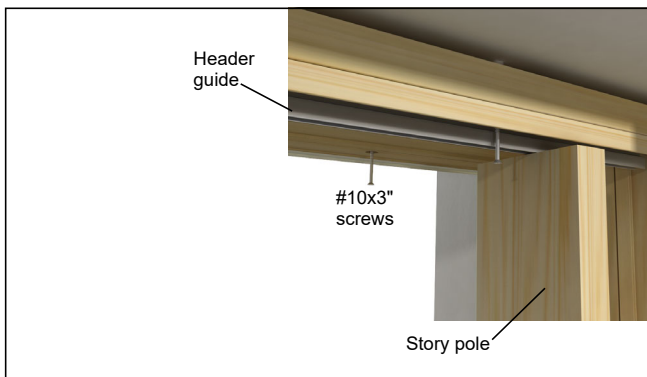

Figure 24
3. Adjust head jamb shim screws so that the header guide bottom edge is just touching the story pole and fasten with installation screws. See figure 24.
3. Position header guide directly over bottom sill track using laser to align. Plumb and true the side jambs, adjusting shim screws as needed, and anchor the top corner. See figure 24. For stacked units follow the same procedure for the other side jamb.
4. Adjust head jamb shim screws so that the header guide bottom edge is just touching the story pole and fasten with installation screws. See figure 24.